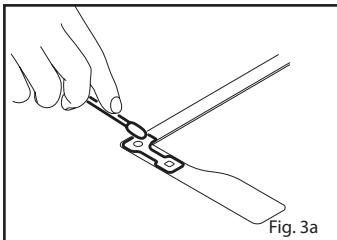

Fig. 3a
2. Refer to **Fig. 3a**. For fragile skin, the stickiness of the medical grade adhesive can be diminished or eliminated by daubing the adhesive areas with a cotton ball or gauze.